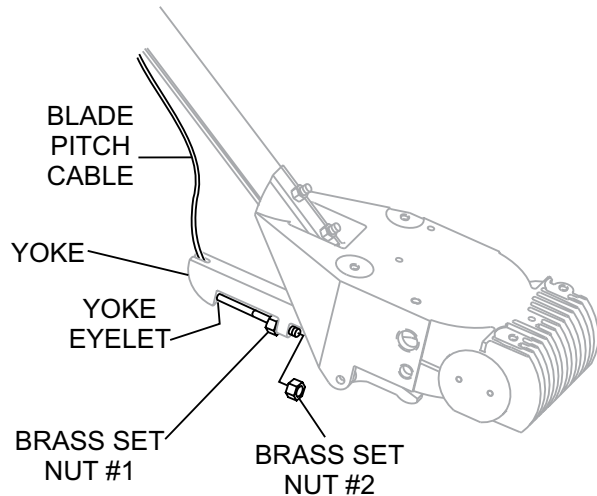

Figure 12. Pitch Cable Yoke Attachment
- Insert the cable end through the yoke eyelet (Figure 12). Tighten brass set nut #1 by hand to remove all the slack from the cable.